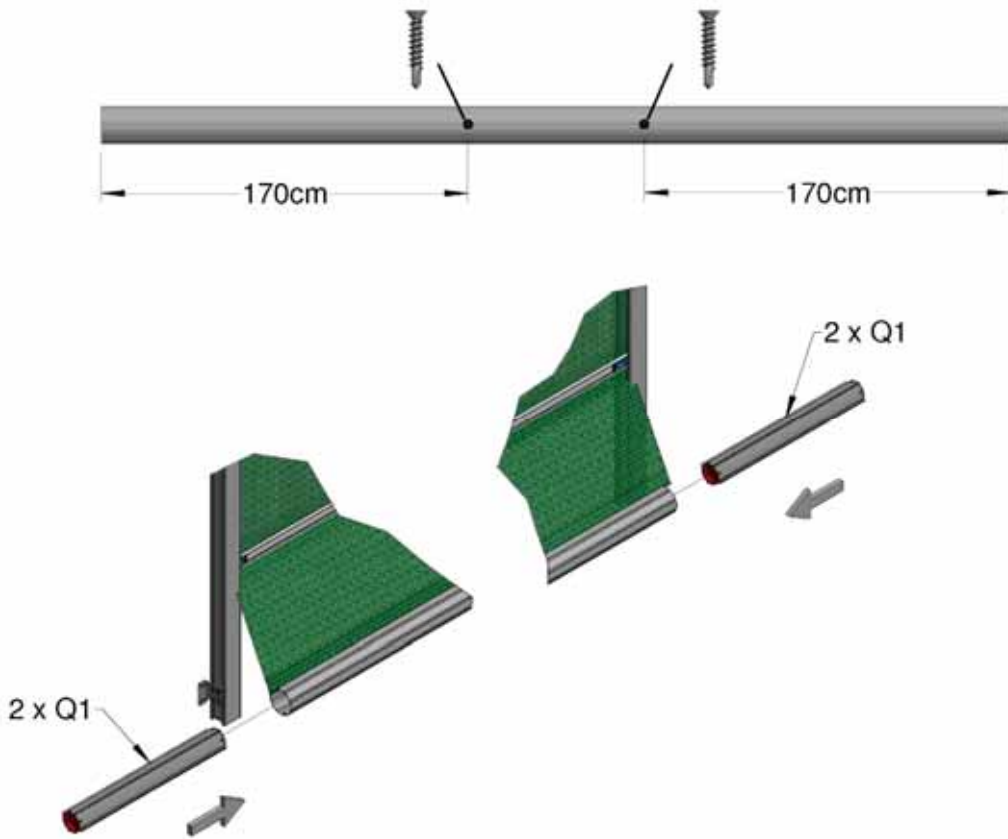

Figure 23, Bottom Tube Weights
- 16 Insert two M4x25 self drill screws into the bottom tube in the positions shown in Figure 23.